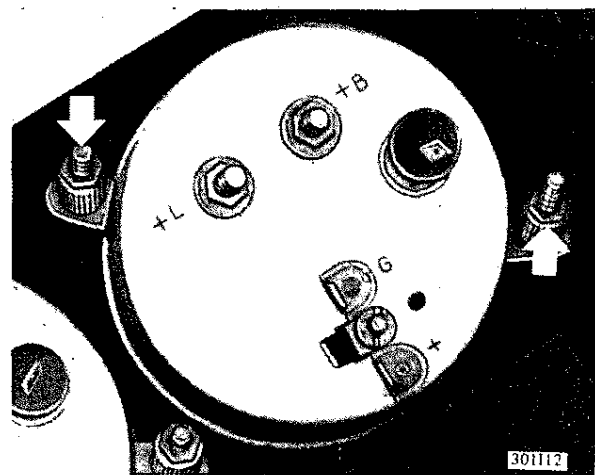

Figure 11-12 Rear View of Ammeter and Oil Pressure Gauge
3. Disconnect electrical wires. See Figure 11-12.